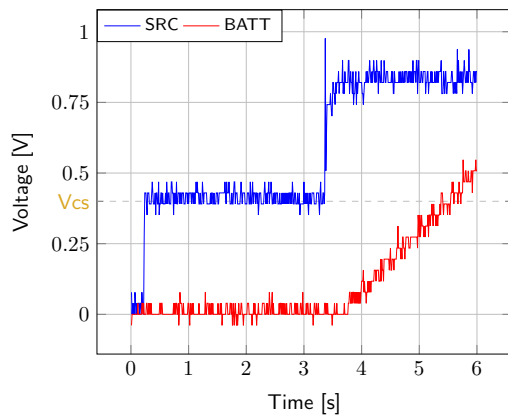

Figure 6: AEM10941 behaviour during cold start
- **SRC**: Equal to the cold-start voltage during the cold-start phase. Regulated at the selected MPPT percentage of V_{oc} when cold start is over (see Figure 6). Be careful that the cold-start phase time will shorten with the input power. Limit it to ease the observation.
- **BATT**: Starts to charge when the cold-start phase is over (see Figure 6).